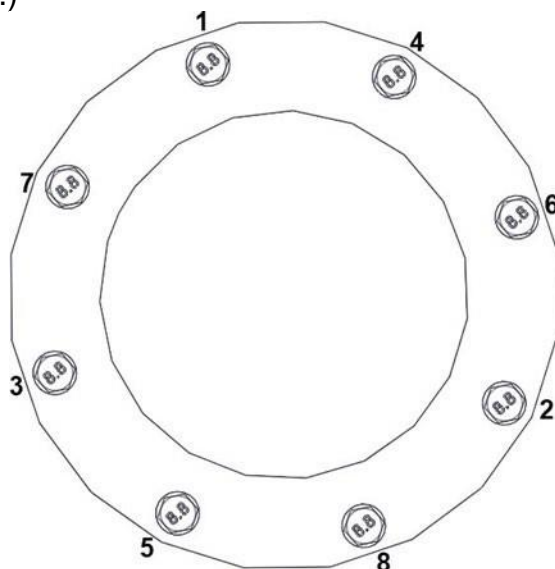

Figure 54. Explosion Relief Valve Torquing Sequence
10. Insert and torque down the eight washers and bolts in the below sequence to 27 ft/lbs. (Refer to Figure 54.)